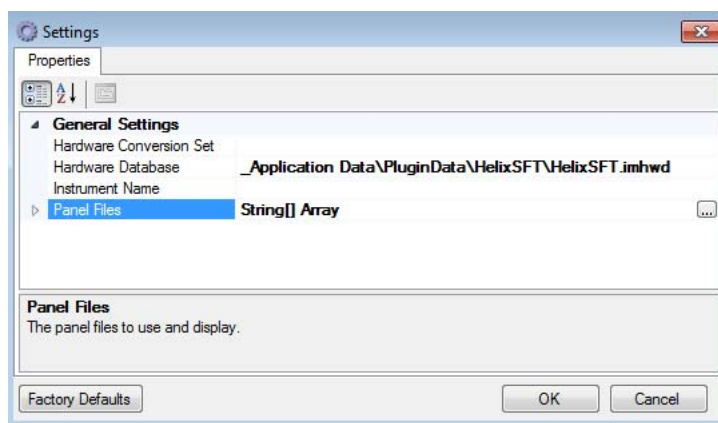

Figure 3-48. Settings of a generic instrument
2. From the shortcut menu, select **Default Settings...** to open the **Settings** dialog. See Figure 3-48.